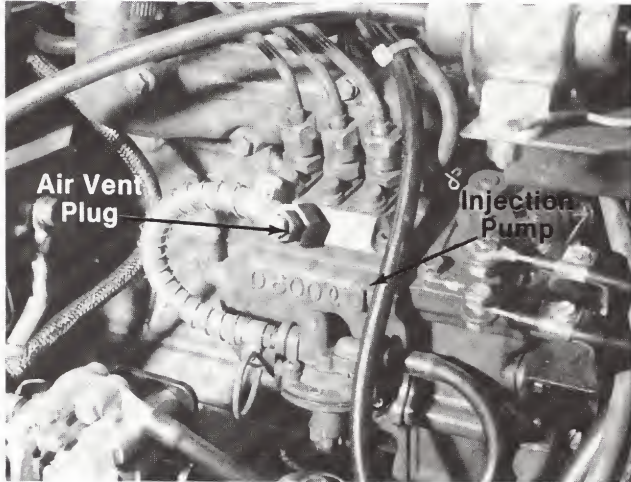

FIGURE 22.
1. Loosen the air vent plug. See figure 22.